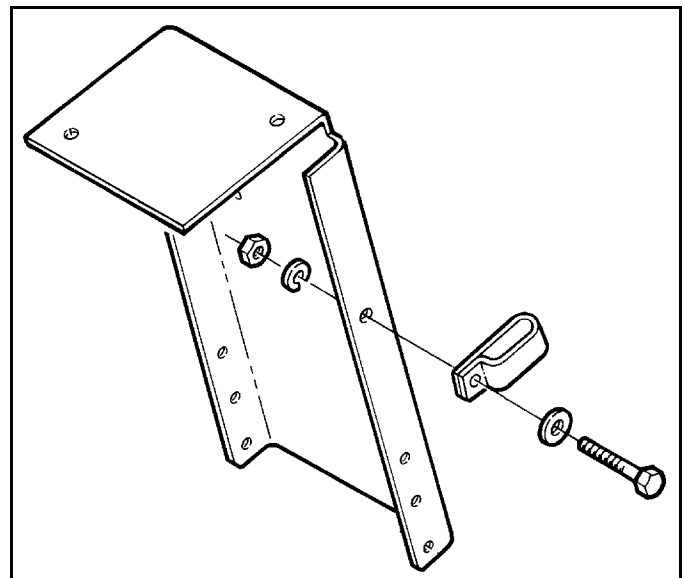

Figure 1-3
4. Secure wire harness to side of Stand Plate with Harness Clamp provided and secure with 1/4"-20 x 1" Cap Screw Lock Washer and Nut through the 9/32" Dia hole in the side of the Stand Plate. (See Figure 1-3)